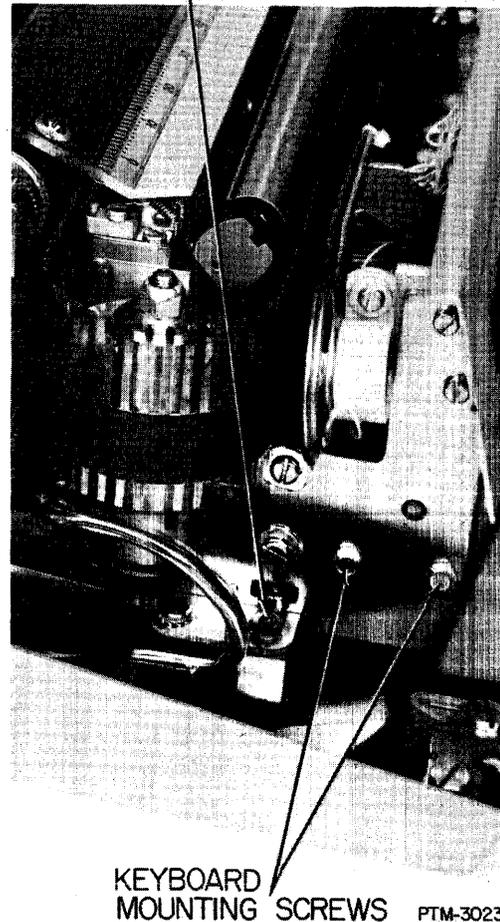

Figure 5-6. Keyboard Mounting.
(Figures 5-6 and 5-7)
5. Remove the base nuts on the shock absorbers located at the front corners of the main frame base plate (see Figure 5-6).